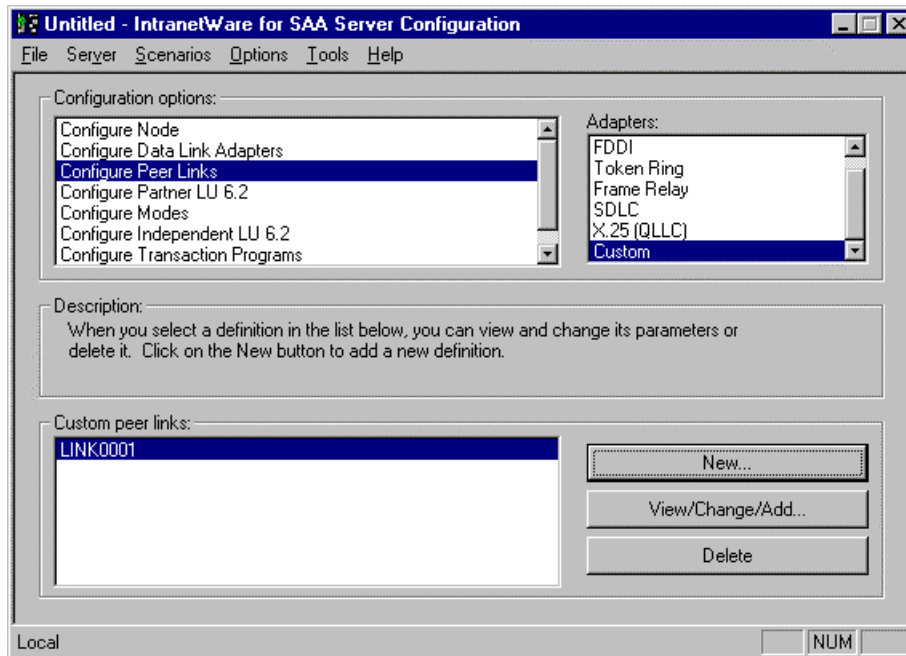

Figure 11-32. Main Display - Newly Created Custom peer link
7. To complete the peer link configuration, click **OK**. The NWSAA Server Configuration main screen will re-appear (Figure 11-32). The newly defined link will appear in Custom Peer Links under the APPN/APPCC Hierarchy.
In intraNetWare for SAA version 3, the link will appear in the **Custom Peer Links:** box (Figure 11-32).